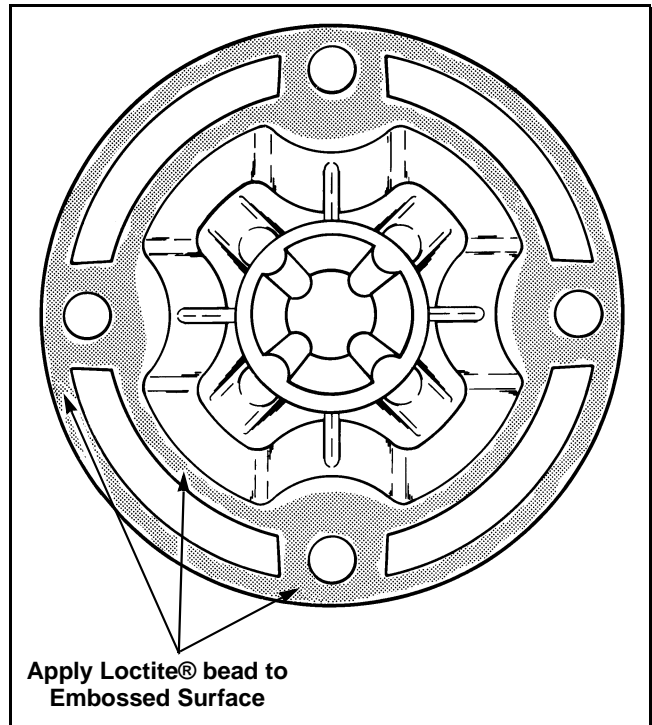

Figure 19
**NOTE: Models equipped with Loctite – Be sure all traces of old loctite are removed from the hub and agitator post. Apply approximately a 1/16 inch diameter continuous bead of Loctite to the embossed surfaces of the agitator post. Refer to *Figure 19*.**